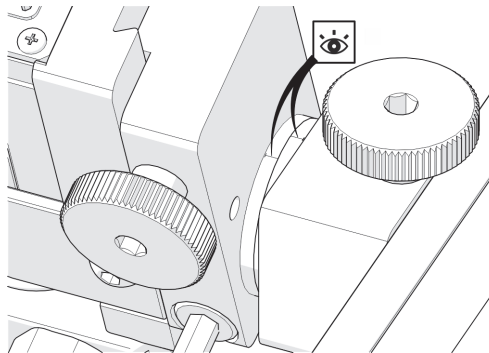

Figure 2-65 Line up markers
5. To return the longitudinal adjustment to neutral (90°), line up the longitudinal adjustment indicator markers (see Figure 2-65 on page 100).